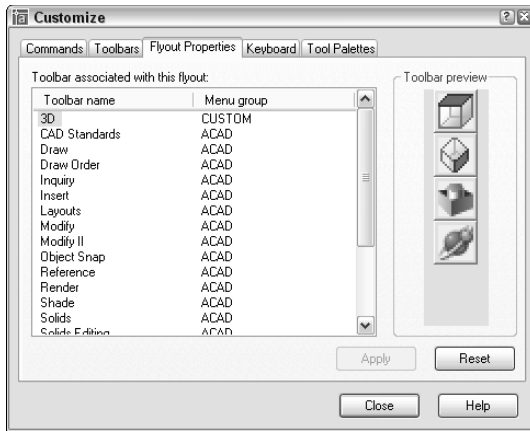

Figure 29-8: The Flyout Properties tab of the Customize dialog box.
4. Click the Properties tab of the Customize dialog box and then click the blank flyout button to display the Flyout Properties tab, shown in Figure 29-8.